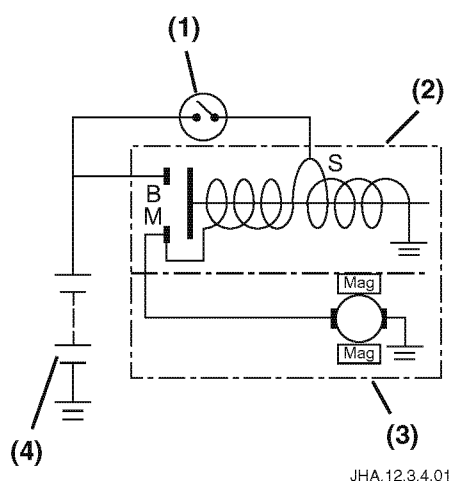

Figure 9-4
1. When the starting switch (**Figure 9-4, (1)**) is engaged, the core of the switch is energized. This extends the contact end of the solenoid to close the circuit between the battery (**Figure 9-4, (4)**) and the starter motor (**Figure 9-4, (3)**). As the core extends to close the electrical contacts on one end, the other end of the solenoid core moves a lever that pushes the pinion gear against spring pressure into engagement with the teeth of the flywheel ring gear.